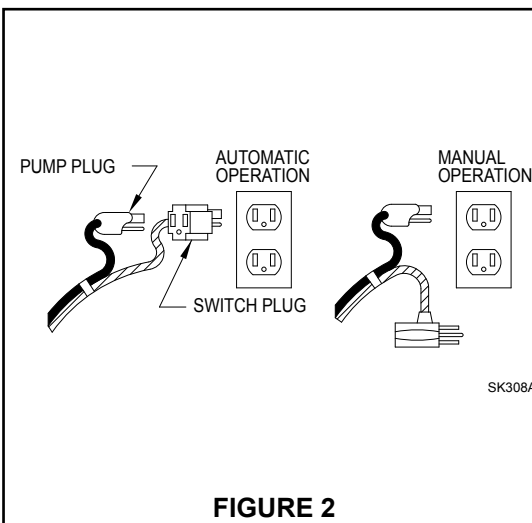

FIGURE 2
- Insert the piggyback plug from the switches into a standard grounded outlet of proper voltage. For automatic operation plug the pump directly into the piggyback plug. (Pump can be manually operated by bypassing piggyback plug.) See Fig. 2.